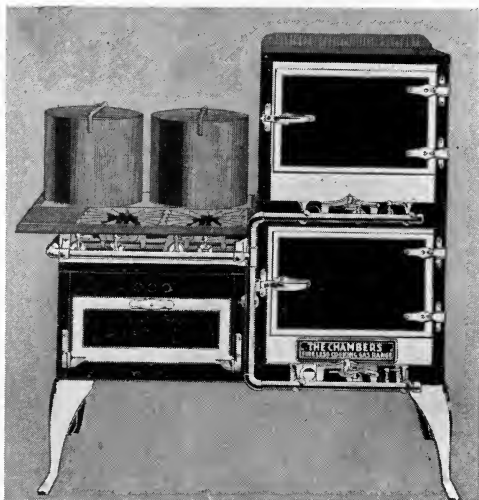

FIG. 24. Gas cookers.
54. Gas Cookers. Since heated air rises, special cookers in the form of insulated caps are made to put over dishes of food heated on gas burners (Fig. 24).